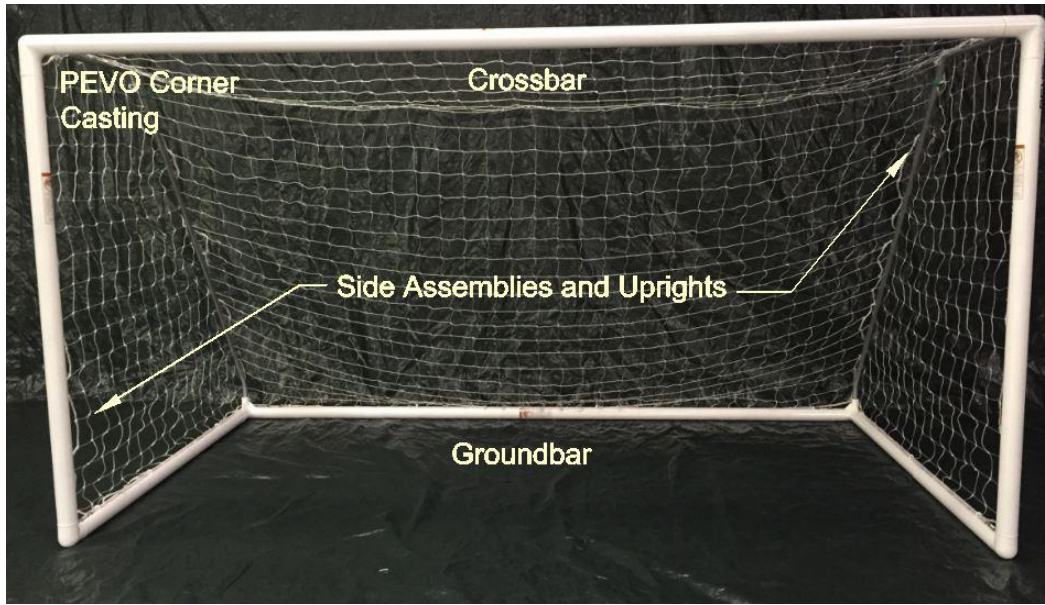

Figure 4. Completed goal with labeled components.
12. Ensure all Hardware is properly tightened and net is fully attached. (See Figure 4) **DO NOT OVER TIGHTEN HARDWARE!**